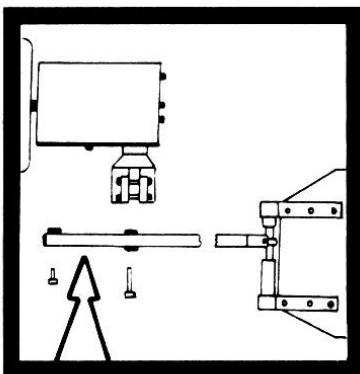

figure 7c
5. (b) **Tail Fin Assembly (Furlmatic) - (Figure 7c)**